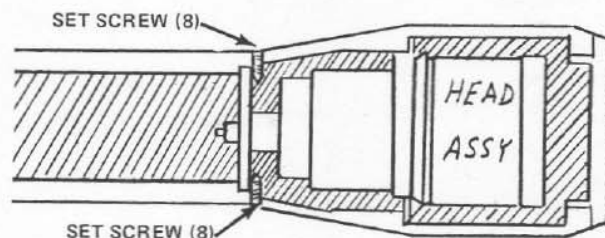

FIGURE 2 — SET SCREWS
1. Use a sharp bladed instrument and remove Front Grille Assembly (1) from Case (7) by inserting blade between plastic grille and case. Note: Magnetic Shield (32).
2. Using a No. .01 Allen wrench remove (2) two set screws (8) securing head assembly printed circuit to case.
3. Use a pair of pliers and carefully remove Head Assembly from Case. Rotate assembly as it is removed from rubber Shock Mount (6).
5. To replace Head Assembly check Front Shock Mount (6) for proper seating in case and Grille Cloth (5) for proper alignment. Reverse above steps. Carefully rotate Head Assembly as it is worked into case. When properly seated in Shock Mount (6) head assembly will sit rigid.
Check case set screw holes for proper alignment of head assembly printed circuit board (Figure 2). Set screws (14) must properly secure circular pcb on microphone head assembly.